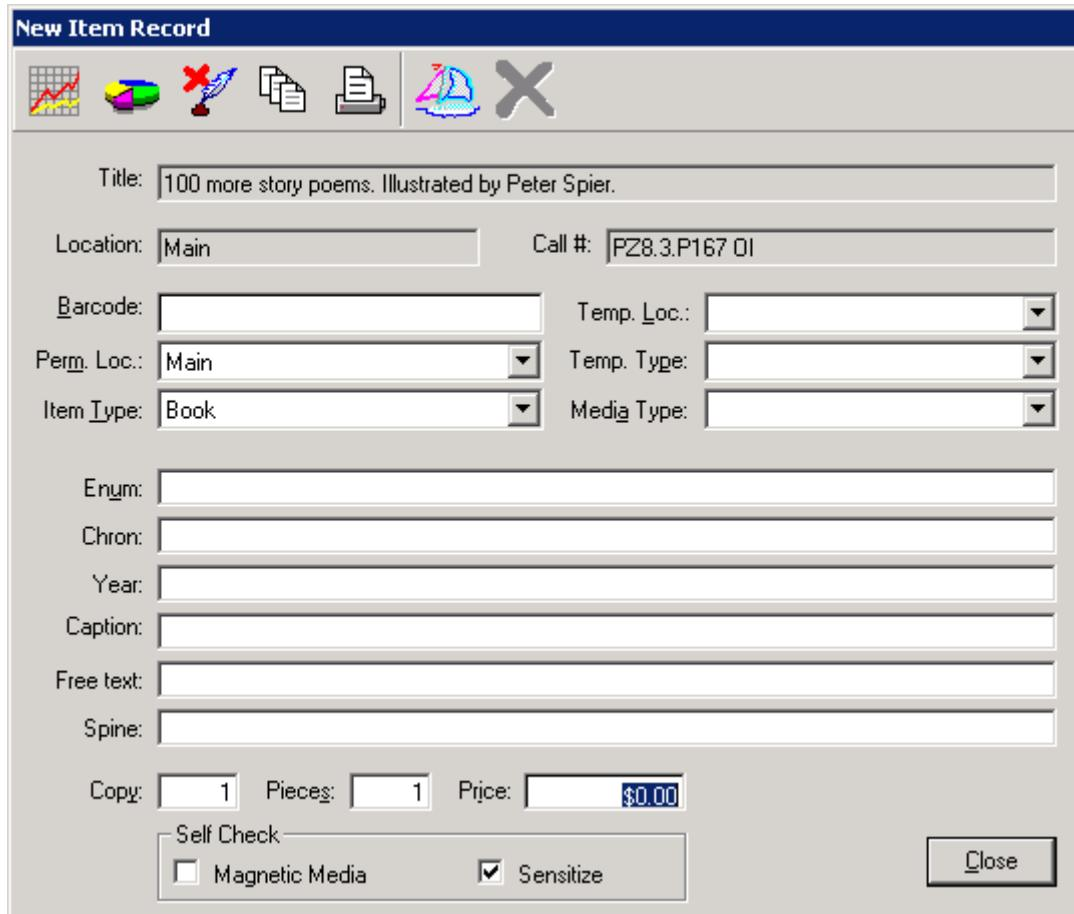
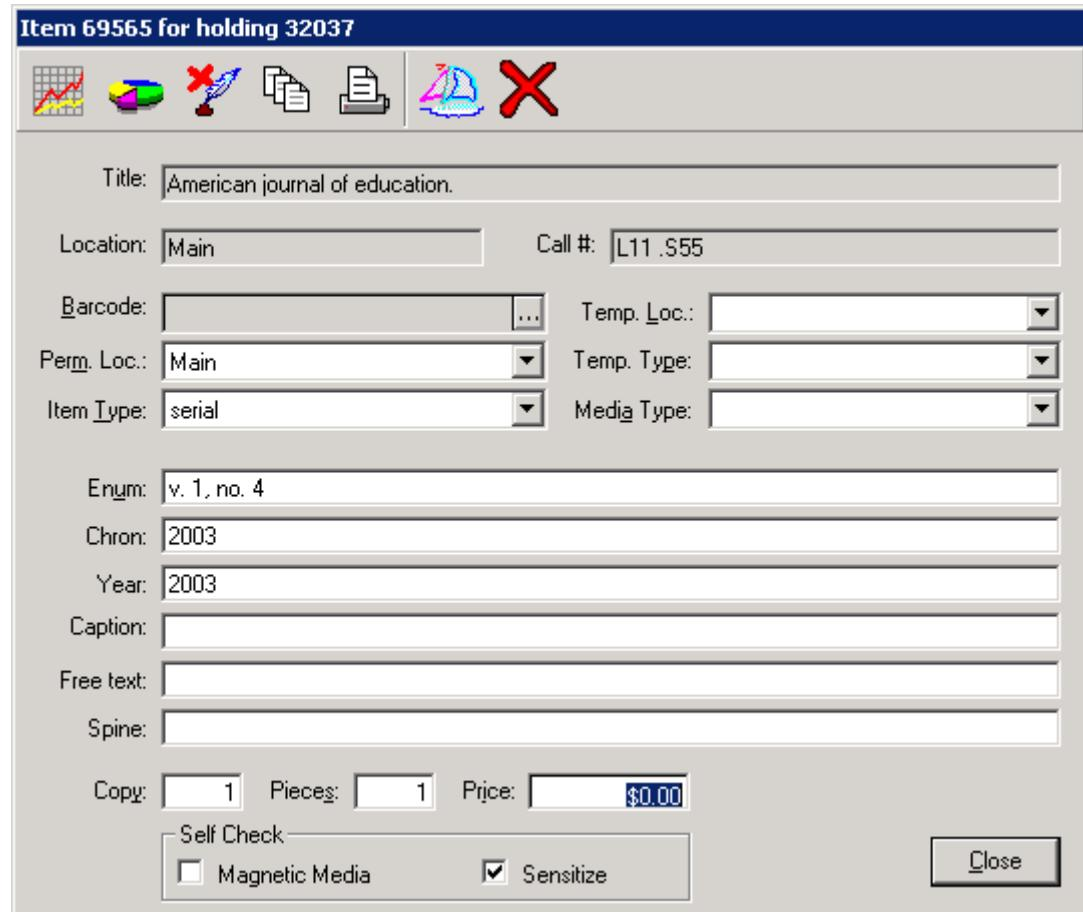

Figure 10-13. New Item Record dialog box
Figure 10-14. Item Record dialog box (item already created)
1. From the **New Item Record** dialog box (Figure 10-13), create an item record. Or from the **Item Record** dialog box (Figure 10-14), edit an item record.
In Figure 10-14 the title bar for an already created item record lists the Item ID and the associated Holding ID.